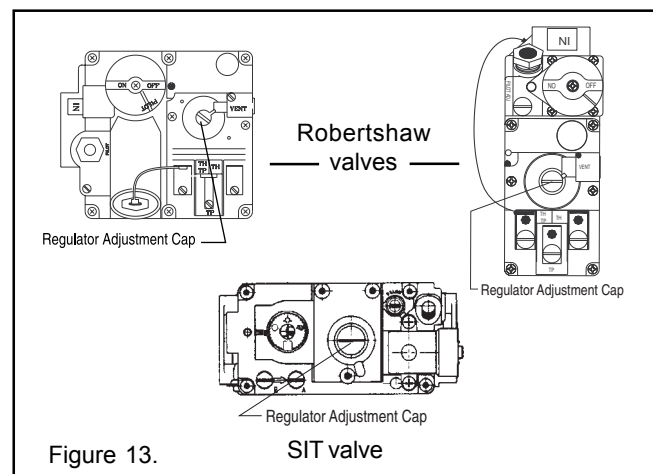

Figure 13.
7. For adjustment, remove the Regulator Adjustment Cap and using a screwdriver turn the screw clockwise to increase - counterclockwise to decrease gas pressure; see Figure 13.